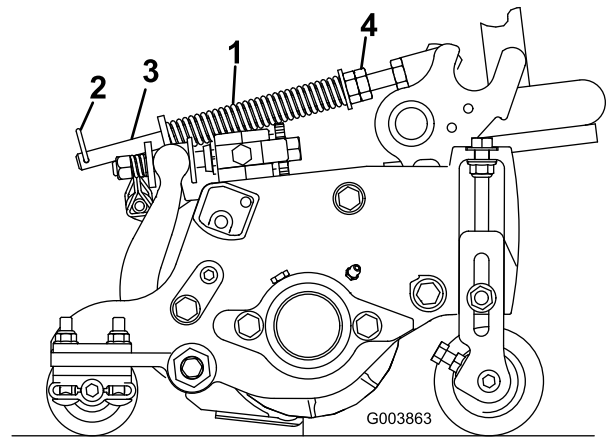

Figure 14
2. Tighten the hex nuts on the front end of the spring rod until the compressed length of the spring is 15.9 cm (6.25 inches) (Figure 14).
The turf-compensation spring (Figure 14) transfers weight from the front to the rear roller. This helps to reduce a wave pattern in the turf, also known as marcelling or bobbing.
1. Make sure that the hairpin cotter is installed in the rear hole in the spring rod (Figure 14).